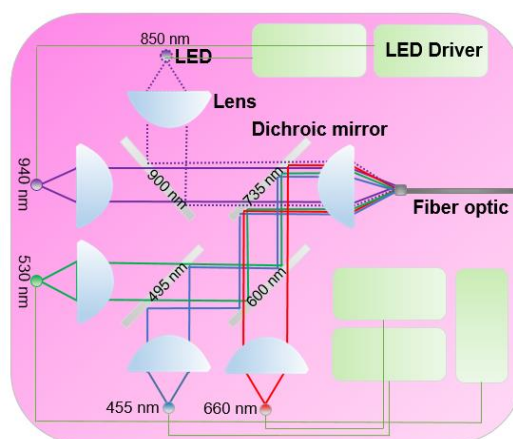
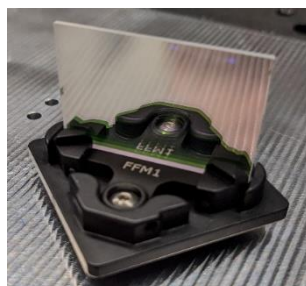

Figure 3 Optical layout of the LED light source.
Figure 4 Assembling of dichroic filters in the cage system.
Figure 3 shows the optical layout of the LED light source.
5. Screw the LED PCBs to the custom-made holders. Use heat conducting paste behind the LED for additional heat conductivity. Attach the holders to the custom-made plate using screws, according the optical layout shown in Figure 3.
6. Mount the dichroic filters in cage cubes as shown in Figure 4. Take into consideration the small arrow on the filter. Handle with care. Mount so the longer wavelength passes through. Attach to the cubes to the plate using screws, according the optical layout shown in Figure 3.
7. Mount the lenses in their cage plates and connect to the plate using screws, according the optical layout shown in Figure 3.
8. Mount the SMA fiber adapter plate in front of the final focusing lens and connect to the plate using screws, according the optical layout shown in Figure 3.